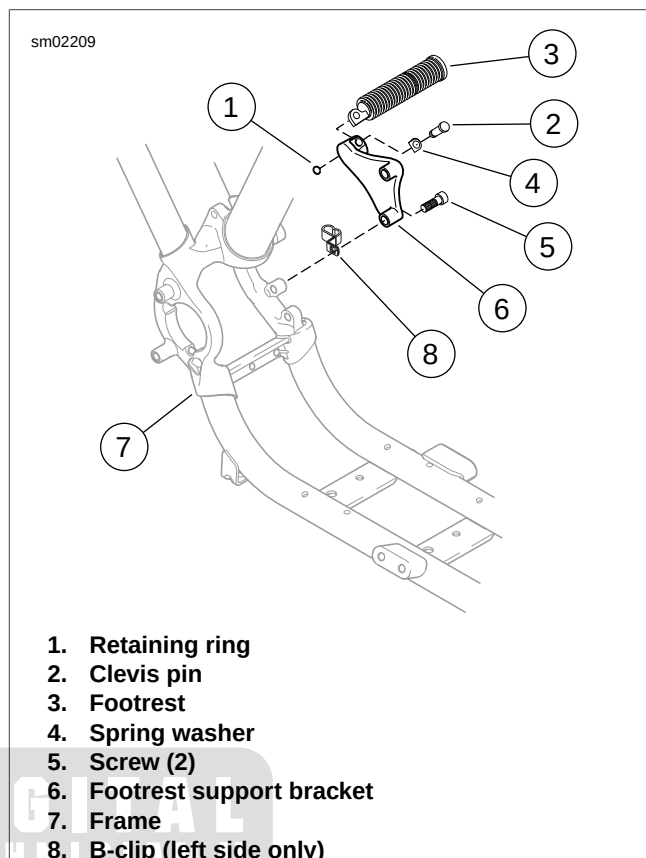

Figure 2-263. Passenger Footrest Assembly (Not Standard Equipment on Some Models)
1. See Figure 2-263. Remove retaining ring (1), clevis pin (2), footrest (3) and spring washer (4). Discard retaining ring.
2. Remove two screws (5) and footrest support bracket (6) from frame (7).
See Figure 2-263. On left side of vehicle, a B-clip (8) is positioned between footrest support bracket (6) and lower support bracket hole on frame (7). Make sure this clip is positioned between footrest support bracket and frame when attaching support bracket in the next step.
1. See Figure 2-263. Attach footrest support bracket (6) to frame (7) with two screws (5). Tighten to 45-50 ft-lbs (61-68 Nm).
2. Install footrest (3) on footrest support bracket with spring washer (4). Make sure spring washer is positioned inside support bracket mounting boss with the square edge toward the inside.
3. Align holes and push clevis pin (2) from top down through hole in support bracket. Secure with **new** retaining ring (1).